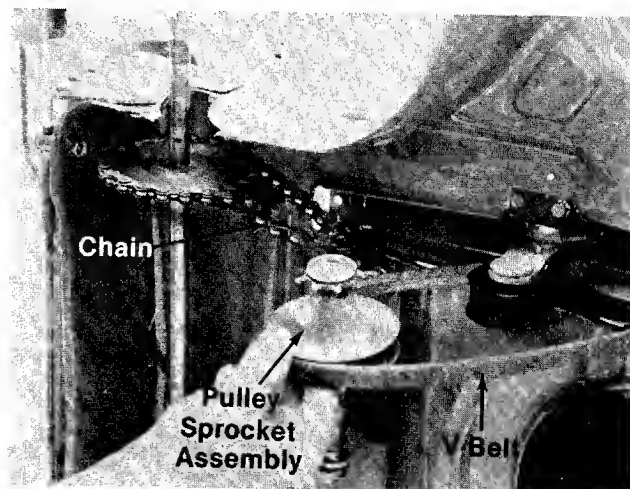

FIGURE 24.
11. Lift the chain off the sprocket as shown in figure 24. Lift the V-belt off the pulley sprocket assembly. See figure 24.